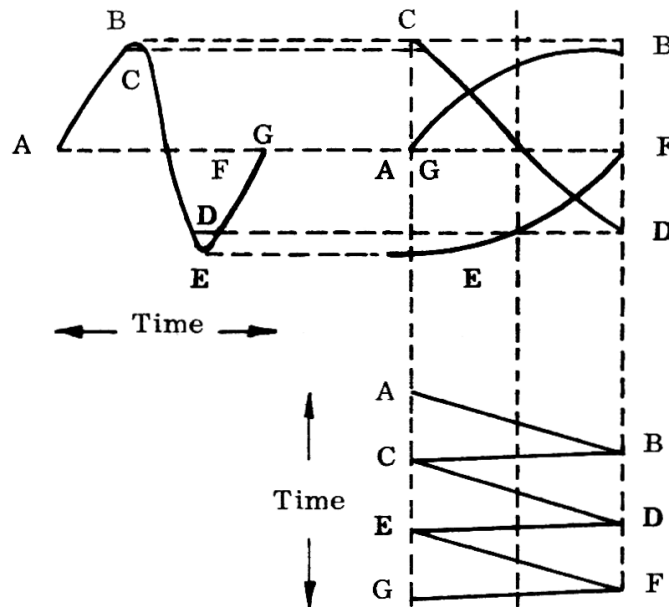

Fig.12 Horizontal sweep frequency is three times that of Vertical Input frequency.
- 5.4.3 If however the frequency of the sawtooth is greater than the frequency of the Vertical Input, it will result in figures that are sub-multiples. Figure. 12 shows a sub-multiple pattern in the screen.
Referring to figure 12, the sawtooth voltage, being three times the frequency of that of the vertical input, must complete itself three times in order to trace out one cycle of the vertical input. Sawtooth #1 will trace out portion A to B, sawtooth #2 will trace out portion C to D, sawtooth # 3 will trace out portion EF. This results in a pattern similar to that shown in figure 12 depending on the settings of the gain controls. Time B to C, D to E and F to G, are retrace times in which the beam moves rapidly back to the left too fast to leave an impression on the screen.